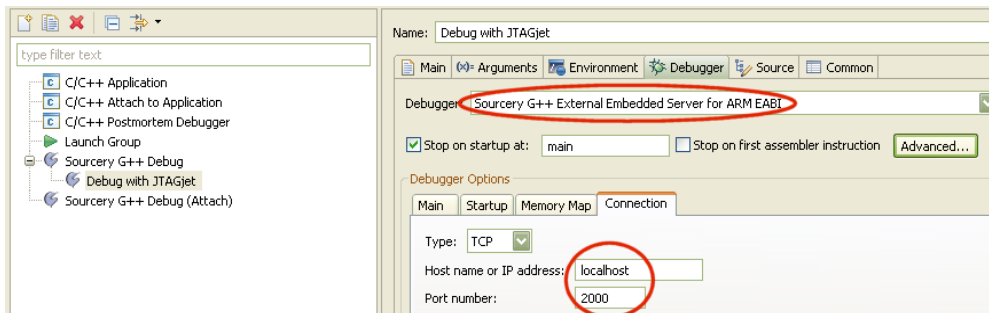

FIGURE 2 Selecting External Embedded Server and connection parameters.
2. In the newly created “Debug with JTAGjet” configuration, open the Debugger tab. In the Debugger drop-down menu, select Sourcery G++ External Embedded Server for ARM EABI. In the Debugger Options group, open the Connection tab and specify the host name and a port number for the GDB server (Figure 2).